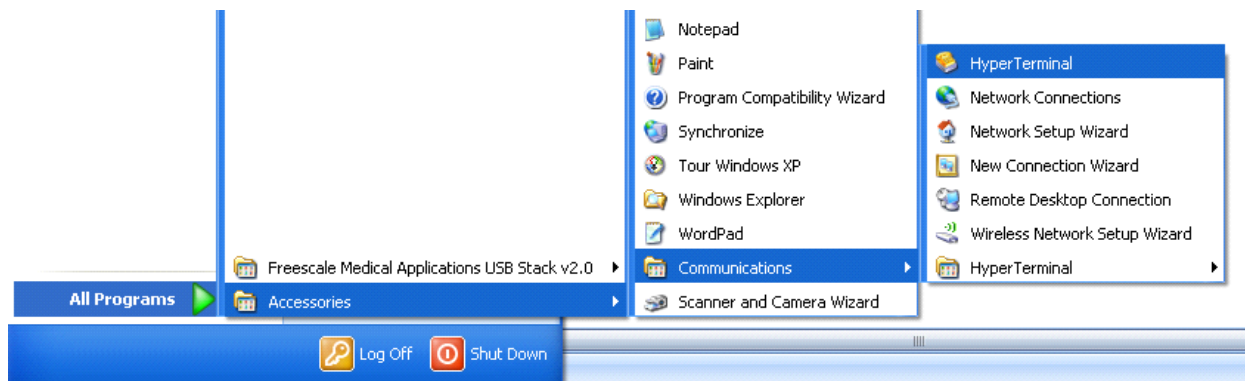

Figure A-9. Launch HyperTerminal Application
- Open HyperTerminal applications as shown in Figure A-9.